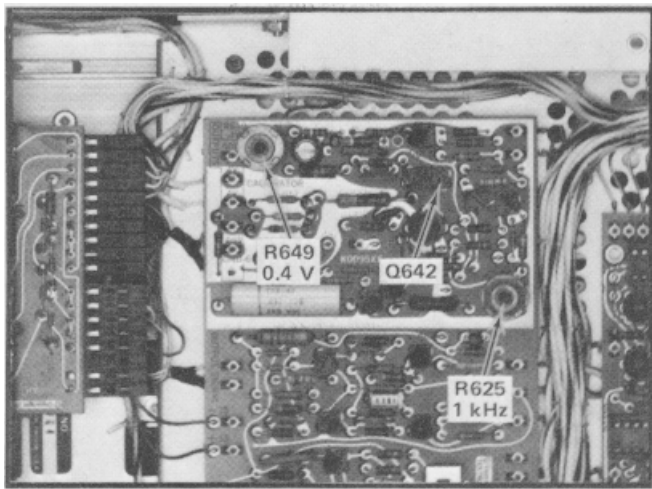

Fig. 5-10. Location of Calibrator adjustments (Output Signal board).
- a. Remove Q642 from its socket (see Fig. 5-10).
d. ADJUST-0.4 V adjustment R649 (see Fig. 5-10) for a meter reading of exactly 0.4 volt.
i. ADJUST-1 kHz adjustment R625 (see Fig. 5-10) to align the leading edges of the calibrator square wave with the markers over the entire display area (preliminary adjustment).